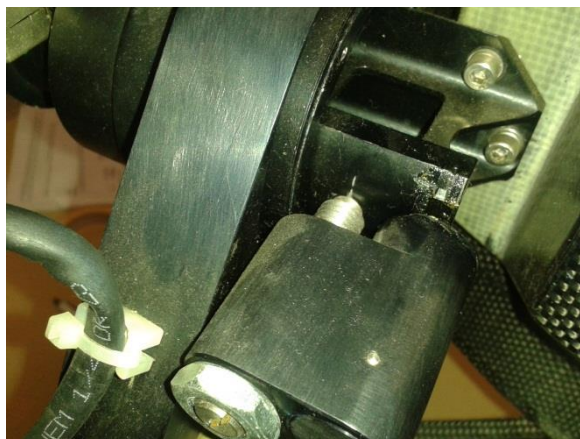

Figure 1 Mechanical stop inserted
- Insert the mechanical stop by means 17mm wrench (d) and block it in stop position as Figure 1.